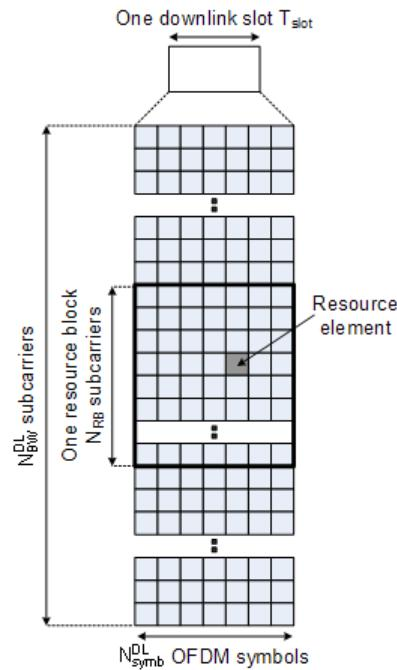

Fig. 1-5: Downlink Resource Grid
figure 1-5 shows the structure of the downlink resource grid for the duration of one downlink slot. The available downlink bandwidth consists of N_{BW}^{DL} subcarriers with a spacing of $\Delta f = 15$ kHz. In the case of multi-cell MBMS transmission, a subcarrier spacing of $\Delta f = 7.5$ kHz is also possible. N_{BW}^{DL} can vary in order to allow for scalable bandwidth operation up to 20 MHz. Initially, the bandwidths for LTE were explicitly defined within layer 1 specifications. Later on a bandwidth agnostic layer 1 was introduced, with N_{BW}^{DL} for the different bandwidths to be specified by 3GPP RAN4 to meet performance requirements, e.g. for out-of-band emission requirements and regulatory emission limits.
Data is allocated to the UEs in terms of resource blocks. A physical resource block consists of 12 (24) consecutive subcarriers in the frequency domain for the $\Delta f=15$ kHz ($\Delta f=7.5$ kHz) case. In the time domain, a physical resource block consists of DL N_{symb} consecutive OFDM symbols, see figure 1-5. N_{symb}^{DL} is equal to the number of OFDM symbols in a slot. The resource block size is the same for all bandwidths, therefore the number of available physical resource blocks depends on the bandwidth. Depending on the required data rate, each UE can be assigned one or more resource blocks in each transmission time interval of 1 ms. The scheduling decision is done in the base station (eNodeB). The user data is carried on the physical downlink shared channel (PDSCH). Downlink control signaling on the physical downlink control channel (PDCCH) is used to convey the scheduling decisions to individual UEs. The PDCCH is located in the first OFDM symbols of a slot.